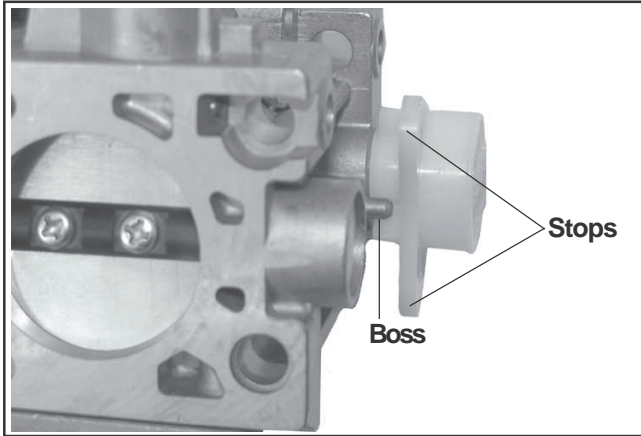

Figure 5-30. Assembling Choke Lever.
7. Insert the new bushing through the new choke lever from the outside, and start the bushing in the outer shaft bore. Position the choke lever so the protruding boss on the carburetor housing is between the two stops formed in the choke lever. See Figure 5-30.